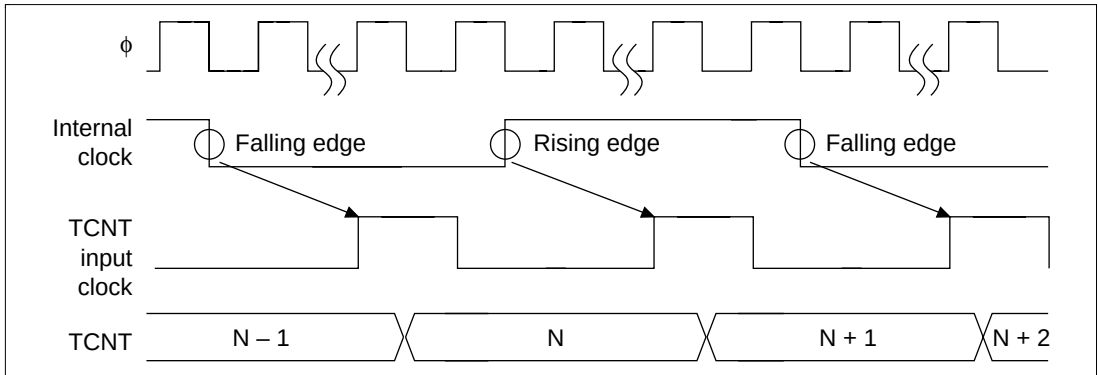
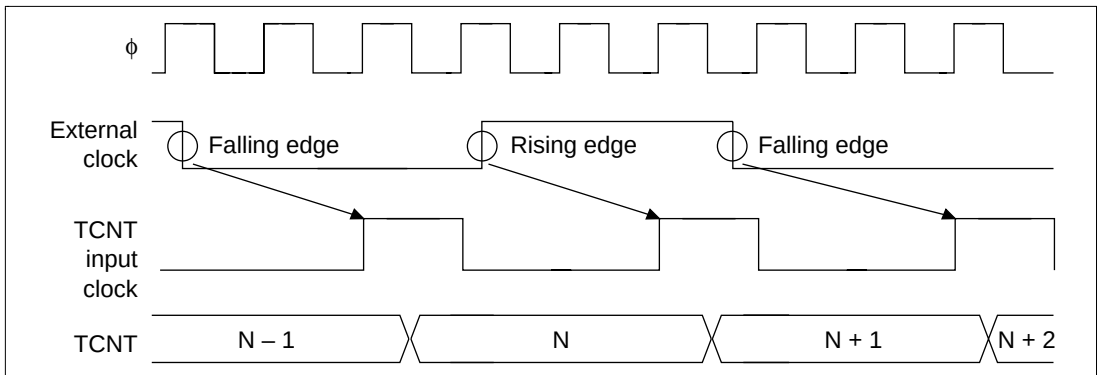
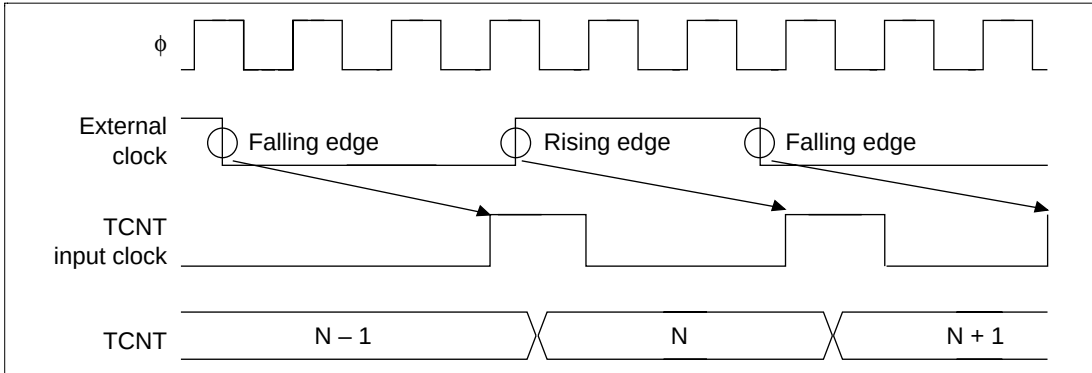

**Figure 12.59 TCNT Count Timing during Internal Clock Operation**
**Figure 12.60 TCNT Count Timing during External Clock Operation (Normal Mode)**
**Figure 12.61 TCNT Count Timing during External Clock Operation (Phase Counting Mode)**
**TCNT Count Timing:** Count timing for the TCNT counter with internal clock operation is shown in figure 12.59. Count timing with external clock operation (normal mode) is shown in figure 12.60, and figure 12.61 shows count timing with external clock operation (phase counting mode).